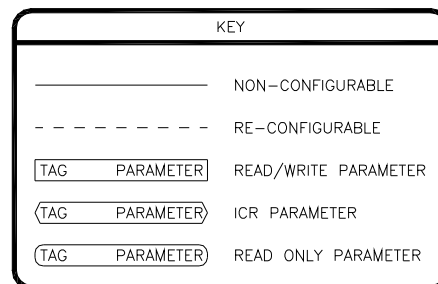

Figure 13
Programming and adjustment of the Elite Pro is accomplished by changing parameter settings. Each parameter has a Tag identifier and a descriptive name. Parameters are separated into groups and blocks according to their function. The following sections contain each software block diagram and descriptions of each parameter function. Refer to Figure 13 for key conventions that are used in the block diagrams. Each parameter is one of three types: Read-Write (RW), Inhibit Change while Running (ICR), or Read-Only (RO). ICR parameters can be changed only when the drive is not running.